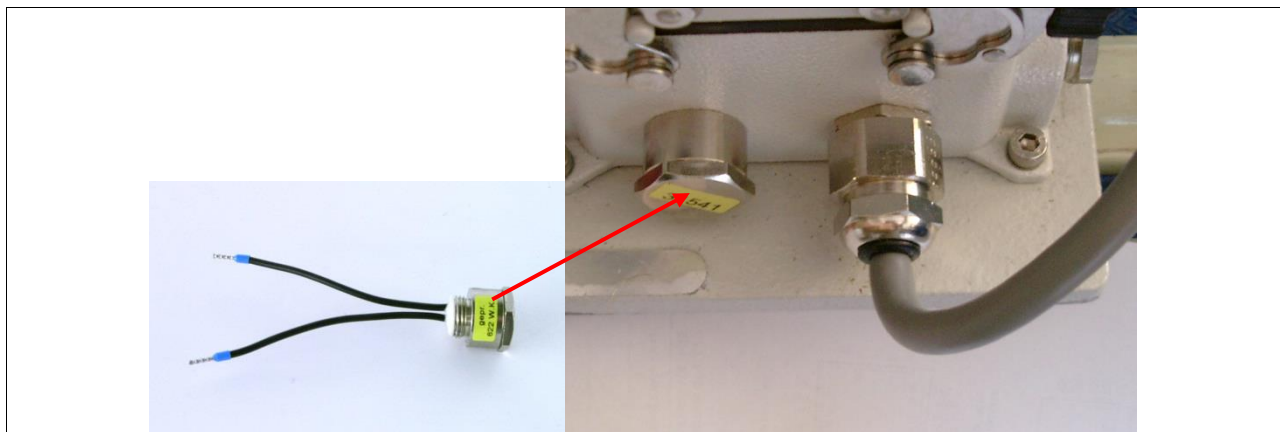

Figure 20: Cable entry and bus-terminator on the bottom side of the VISATRON® device
The used communication cable must be twisted pair and shielded. We recommend LAPPKABEL UNITRONIC-FD CP (TP) plus UL-CSA, AWG20. The total bus length is limited to 400 m. The VISATRON® device cable entry (see **Figure 20**) at the VISATRON® device is designed for cable diameter between 7.5 and 10.0 mm.